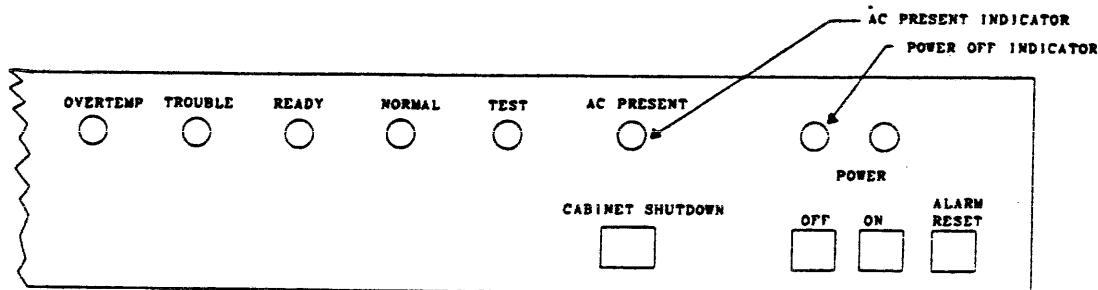

FIGURE 4-7. OPERATOR CONTROL PANEL (AC PRESENT AND POWER OFF INDICATORS)
- Verify that the AC PRESENT indicator and the POWER OFF indicator located on the Operator Control Panel are illuminated. See Figure 4-7.